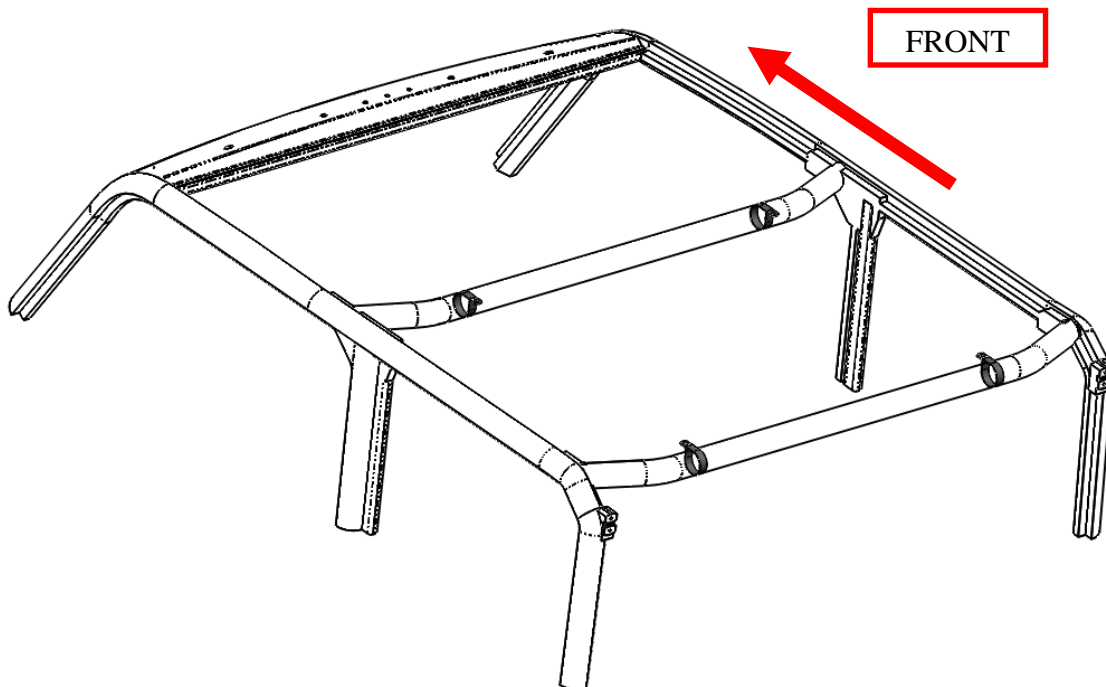

Figure 4: Approximate clamp locations.
2. Spread the clamps by hand and slide them over the cage tubing. Place them on the cage in the approximate locations shown in Figure 4. Note the orientation of the clamp tab pointing towards the rear of the vehicle for the middle tube and toward the front of the vehicle for the rear tube. It must line up flat against the top on the correct side of the tubing.